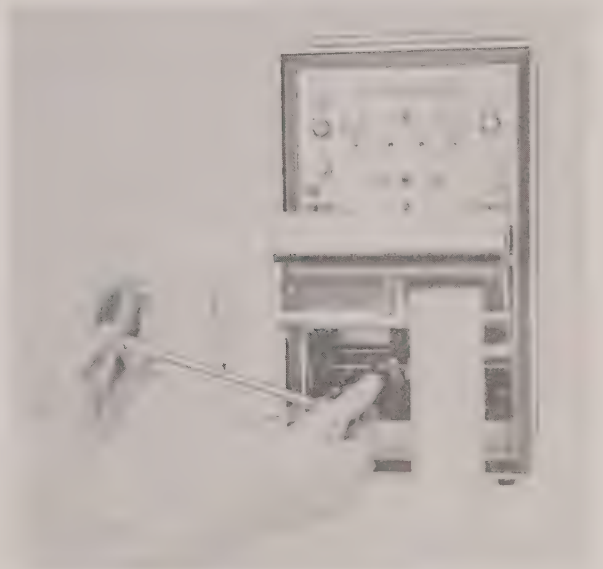

FIGURE 3-2 REMOVE PAPER SUPPLY ROLL
4. Unscrew flange from supply roll shaft in a counterclockwise direction (Fig. 3-2).